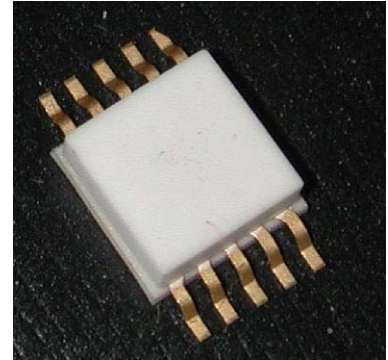

Figure 1: Photo of BM Package
This application note describes the use and handling of AMCOM's MMIC power amplifiers in BM package. The MMIC chips are housed in a 10-pin low cost surface mountable, ceramic package (BM). The packaged MMIC can be handled by standard pick and place equipment. Figure 1 at right is the photograph of the BM package.